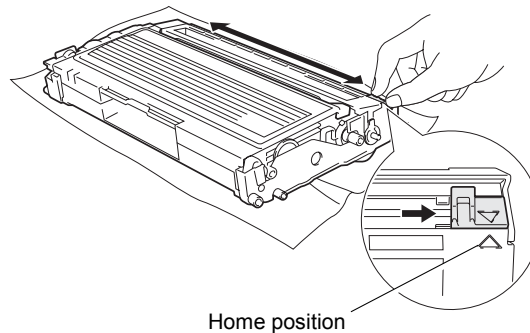

Fig. 5-14
- * Make sure that the wire cleaner on the drum/toner ASSY is returned to the home position (▼ mark position) before re-installing the drum/toner ASSY into the printer, or printed pages may have vertical stripes. (Refer to Fig. 5-14)